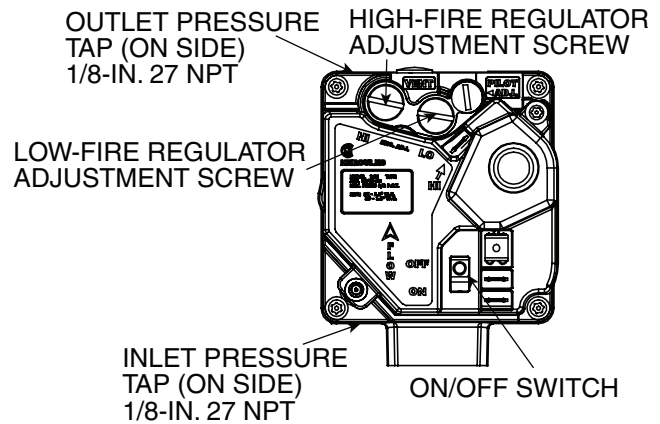

Fig. 50 — Gas Valve (Part Number EF33CW271)
6. Remove screw cap covering regulator adjustment screw (See Fig. 50).